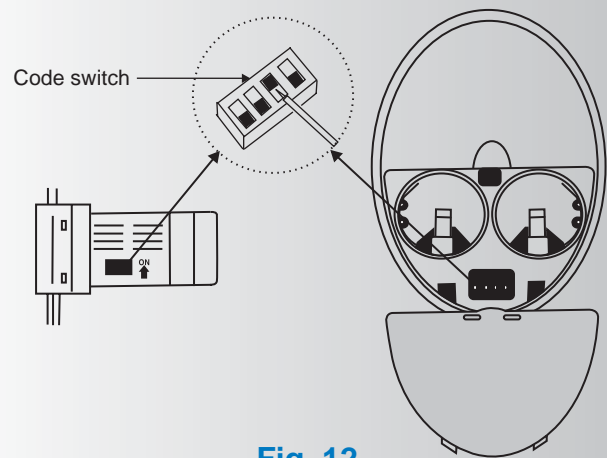

Fig. 12
**NOTE:** The CoolTouch™ control system is equipped with 16 code combinations to prevent possible interference from or to other remote units. The frequency switches on your receiver and transmitter have been preset at the factory. Please recheck to make sure the switches on transmitter and receiver are set to the same position, any combination of settings will operate the fan as long as the transmitter and receiver are set to the same position. (Fig. 12)